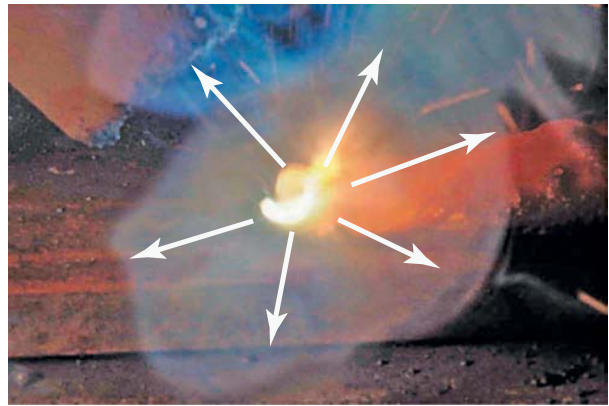

FIGURE 13-14 Rapidly expanding gas cloud. Larry Jeffus
- **Shielding gas:** As elements in the flux are heated by the arc, some of them vaporize and form voluminous gaseous clouds hundreds of times larger than their original volume. This rapidly expanding cloud forces the air around the weld zone away from the molten weld metal, Figure 13-14. Without the protection this process affords the molten metal, it would rapidly oxidize. Such oxidization would severely affect the weld's mechanical properties, rendering it unfit for service.